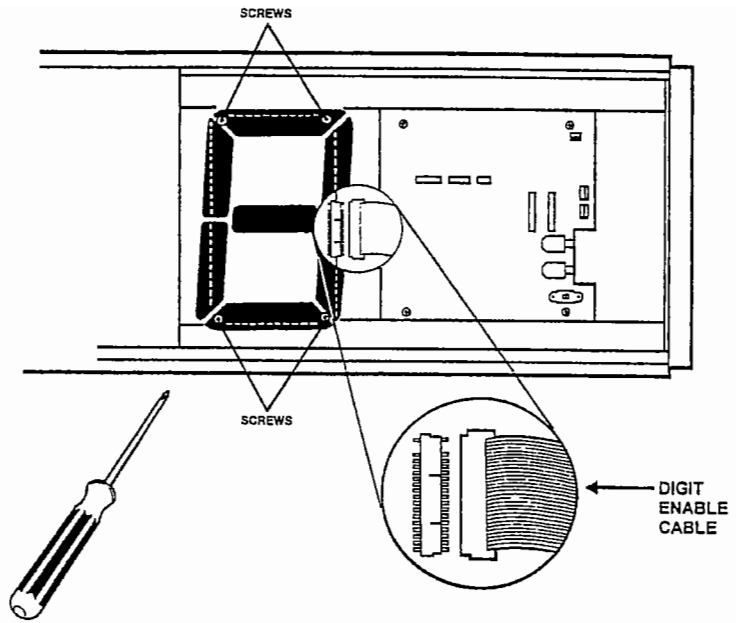

Figure 18
4. Remove the digit module, see Fig. 18.